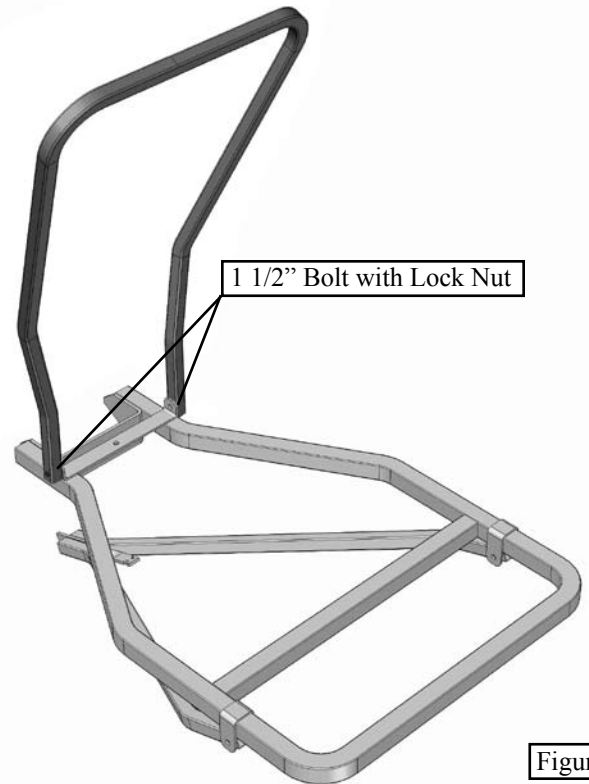

Figure 4
Step 3. Position each end of the seat tube to the outside of the L-Shaped brackets and secure using two 1 1/2" bolts with lock nuts (See **Figure 4**).